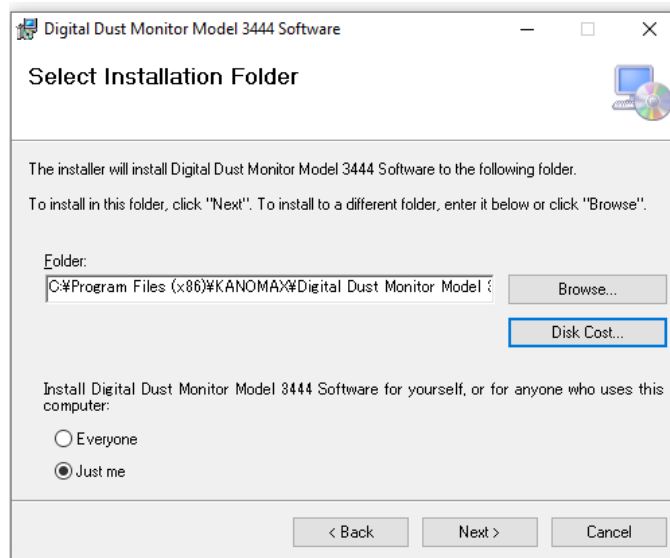

Figure 2-2 Installation folder selection screen
2) Click Next (N) to display Figure 2-2. The standard installation destination is C drive, but "Reference (R)"